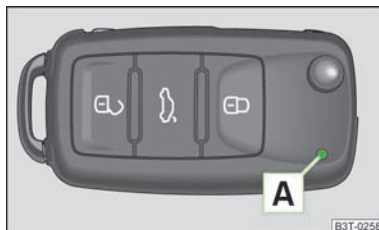
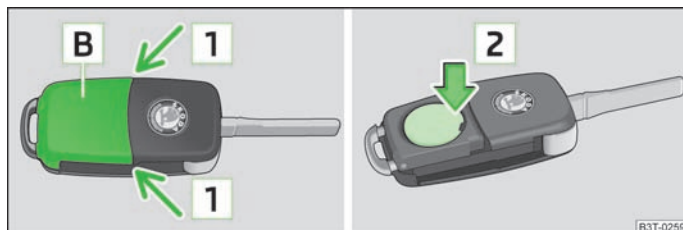

Fig. 9
Fig. 10 Remote control key - remove cover/remove battery
Two remote control keys are provided with the vehicle » Fig. 9.
Each remote control key contains a battery which is housed under the cover [B] » Fig. 10. If the battery is discharged, the red warning light [A] does not flash after you press a button on the remote control key » Fig. 9. We recommend that you ask a ŠKODA Service Partner to replace the key battery. However, if you would like to replace the discharged battery yourself proceed as follows:
- Press off the battery cover with your thumb or using a flat screwdriver in the region of arrows [1] » Fig. 10.
- Remove the discharged battery from the key by pressing the battery downwards in the region of arrow [2] » Fig. 10.
This selection function enables to unlock all the doors, individual doors, both doors on the left and right vehicle side or to unlock the driver and front passenger door at the same time. The other doors and the fuel filler flap remain locked and are only unlocked after being unlocked again using the unlock button on the remote control key » Fig. 9 or the central locking button » Fig. 12.